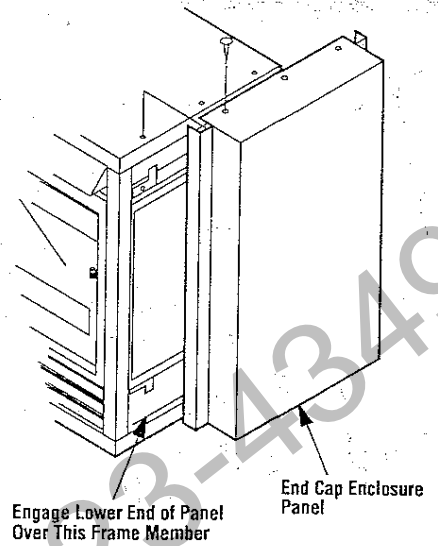

Figure 4
**Step 4.** Install the end cap enclosure panel over the end of the appliance (Figure 4) by engaging the tabbed flange at the bottom of the panel into the appliance lower frame. Close up the panel over the end of the appliance and secure it in place with three (3) screws.